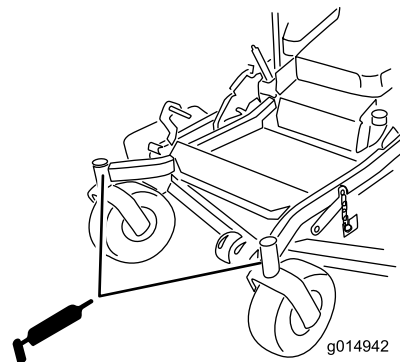

Figure 34
9. Install the hex plug and dust cap (Figure 34).